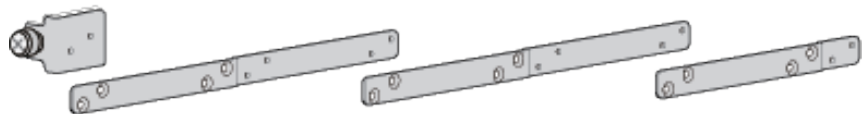

Figure 92. Extension Bracket Configurations
You adjust the lengths of the brackets by connecting them in different combinations. There are seven possible configurations. Refer to Figure 92. The default configuration is number 5. To adjust the extension brackets, perform the following procedure:
1. Review Figure 92 to find the bracket length that most closely matches the measurement taken in step 3 in the previous procedure.